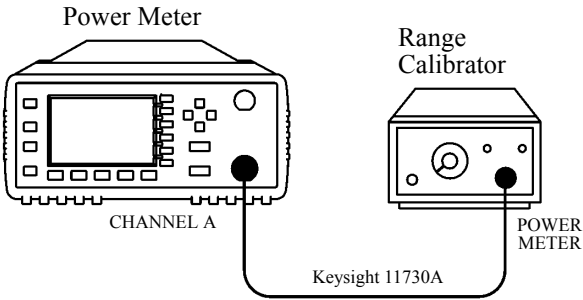

Figure 2-1: Zero Test Setup
- 1. Connect the equipment as shown in **Figure 2-1**.